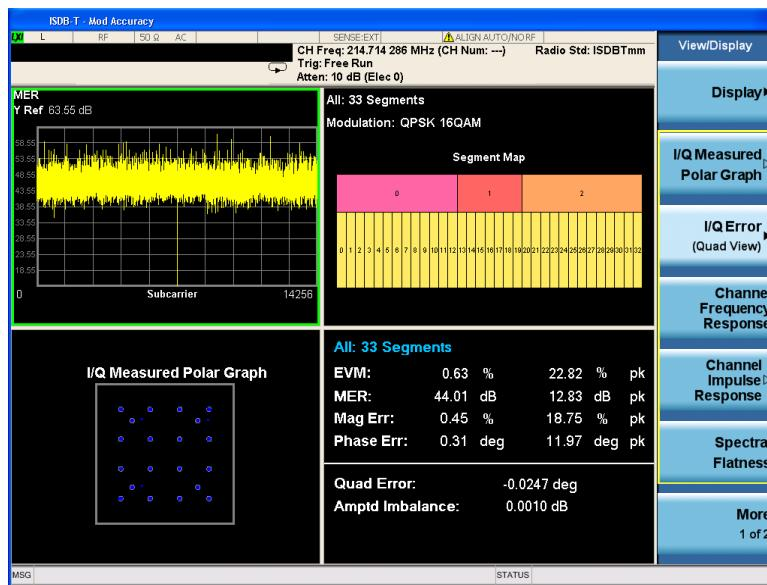

Figure 21. IQ error (Quad View) view for ISDB-Tmm signals
View the I/Q error results (Figure 21)	[View/Display] {I/Q Error (Quad View)}
- **I/Q error (Quad View)** view (Figure 21): This is a four-window view which includes